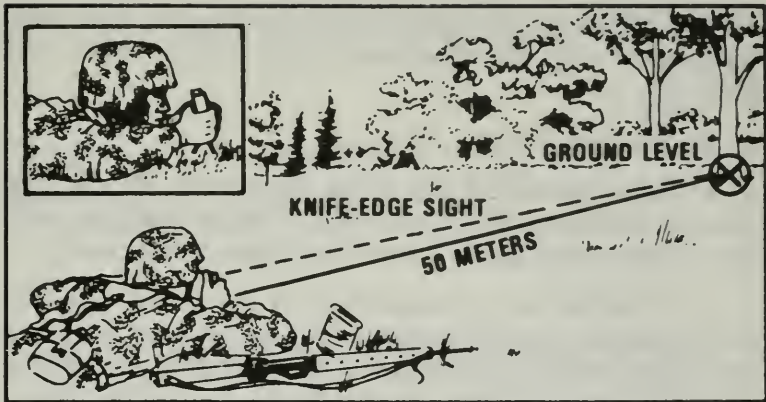

Figure 200. Aiming knife-edge mine.
d. Using the knife-edge sight, select an aiming point at ground level about 50 meters (150 feet) in front of the mine (Figure 200). Position the eye about 6 inches to the rear of the sight and align the two edges of the sight with the aiming point (Figure 201).